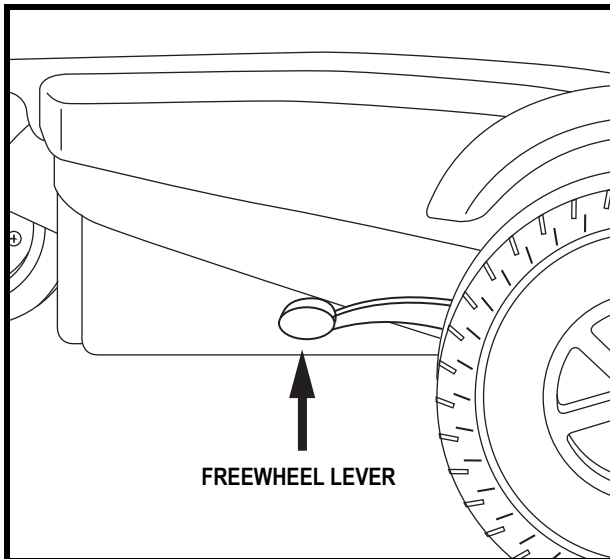

Figure 11. Drive Mode (Drive Engaged)
2. Pull both levers upward to engage the drive motors (drive mode). See figure 11.
2. Ensure the power chair is in drive mode. See figure 11.